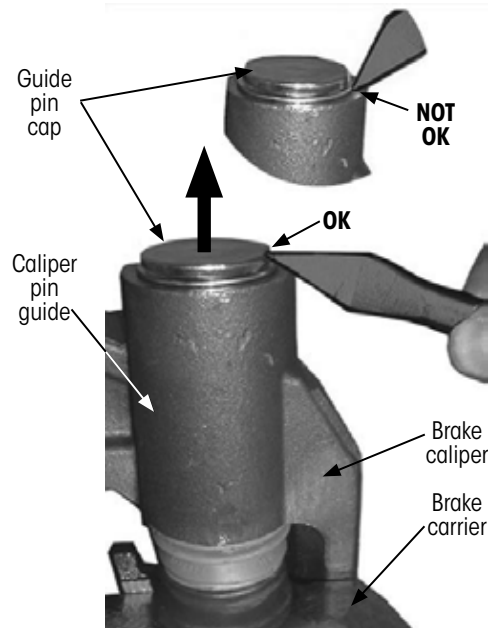

Figure 48: Removing guide pin caps
NOTICE: Damage to the bores may occur if tools are used incorrectly (Figure 48). Do not place tool (e.g. chisel or screwdriver) on caliper face. Only position the tool on the guide pin cap.
3. Remove the guide pin caps (Figure 48).